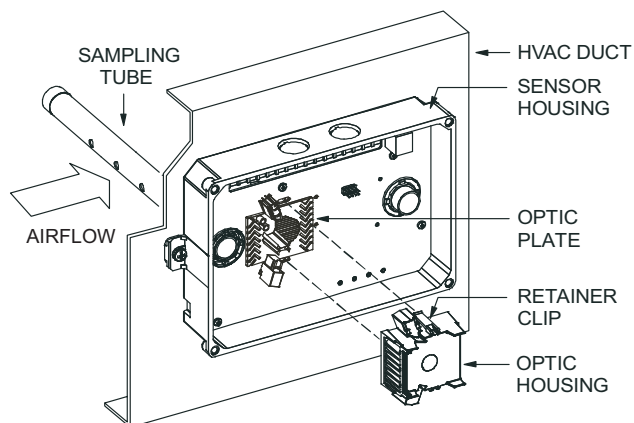

Fig. 32 — Sensor Cleaning Diagram
1. Disconnect power from the duct detector then remove the sensor's cover. (See Fig. 32.)